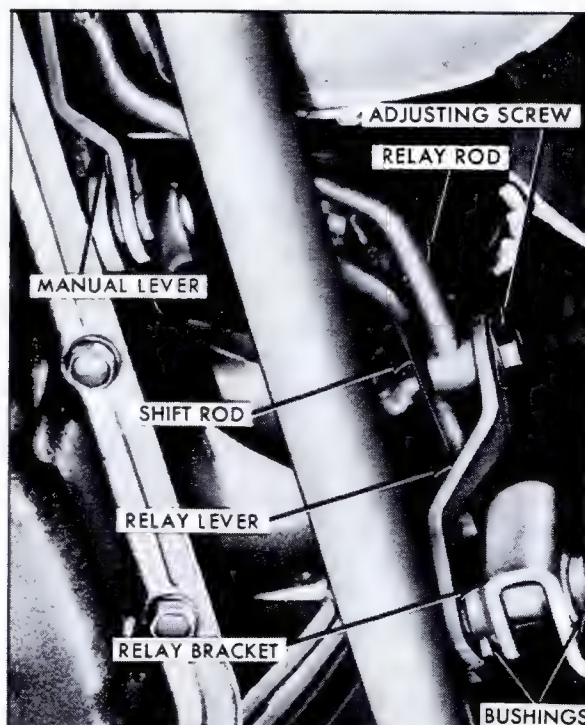

Fig. 7-146 Adjusting Manual Linkage
22. Manual Linkage Adjustment (Fig. 7-146)